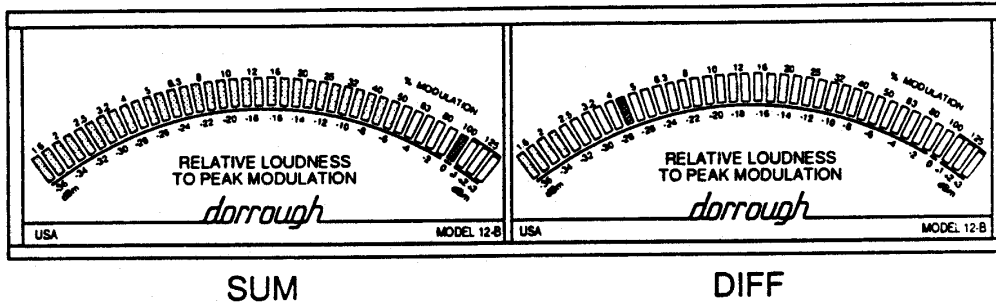

Fig. 14. An example of a SUM/DIFF reading for a typical stereo signal.
3. A stereo signal will provide readings on both the LEFT/SUM and RIGHT/DIFF meters, as shown in Fig. 14. For proper stereo signals, the LEFT/SUM meter will show a higher reading than the RIGHT/DIFF meter. The amount of difference will depend on the amount of correlated signals contained within the audio mix. If you observe a larger reading on the RIGHT/DIFF meter, check the stereo signals for an out-of-polarity condition, as discussed in the Testing for L/R Polarity and Phase Compatibility Application.